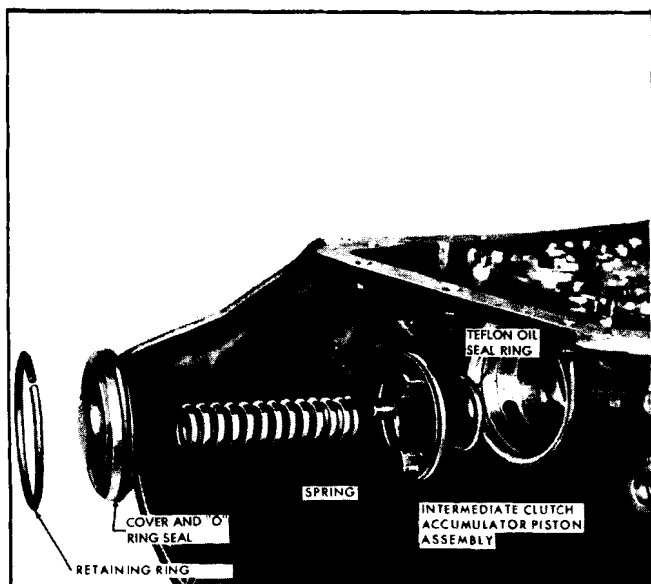

Fig. 7G-146 Exploded View of Intermediate Clutch Accumulator
2. Install piston assembly into its bore in case (Fig. 7G-146).
4. Install accumulator cover to its bore in case by installing compressor J 23069 on oil pan face with two (2) oil pan bolts, compress intermediate accumulator cover and install its retaining ring. Remove bolts and tool (Fig. 7G-147).